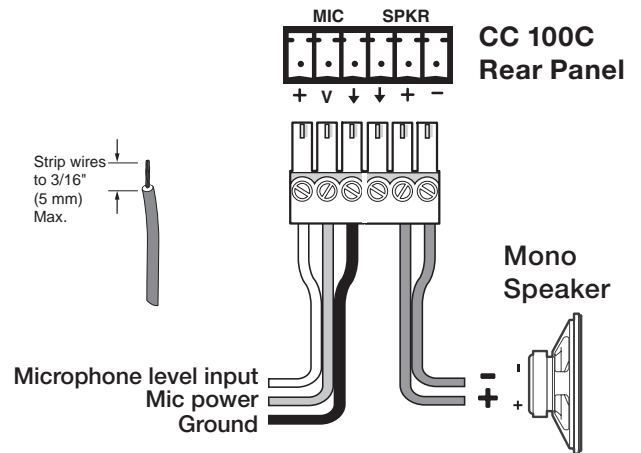

Figure 4. Wiring the Rear Panel MIC Input and Speaker Output
⑬ **LAN/PoE** — Using a CAT 5e straight through network cable connect to a network. The LEDs light green for link status and blink amber during activity.
⑧ **Mic input** — Using a 6-pin captive screw connector, wire a microphone audio input for insertion into the 3 poles labeled as MIC.
⑨ **Speaker** — Using a 6-pin screw block terminal, wire a mono speaker for insertion into the speaker outputs (+ and -) labeled as SPKR. Wire both connectors as shown in figure 4.